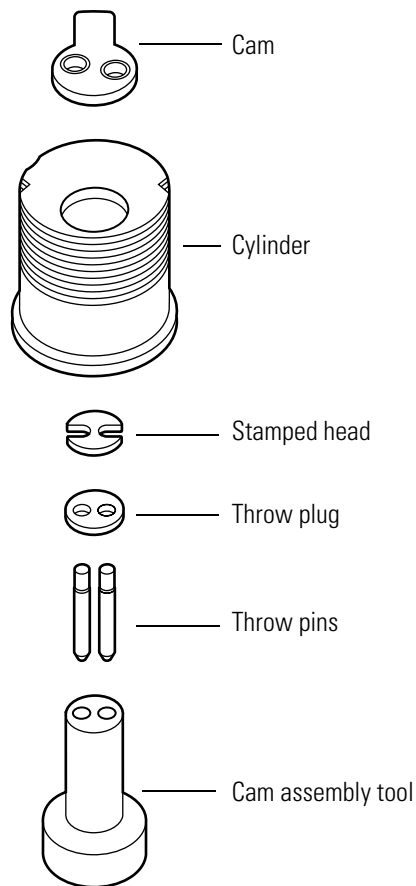

Figure 5.10 Reinstalling the cam
2. Refer to **Figure 5.10** and assemble the following parts onto the cam assembly tool: